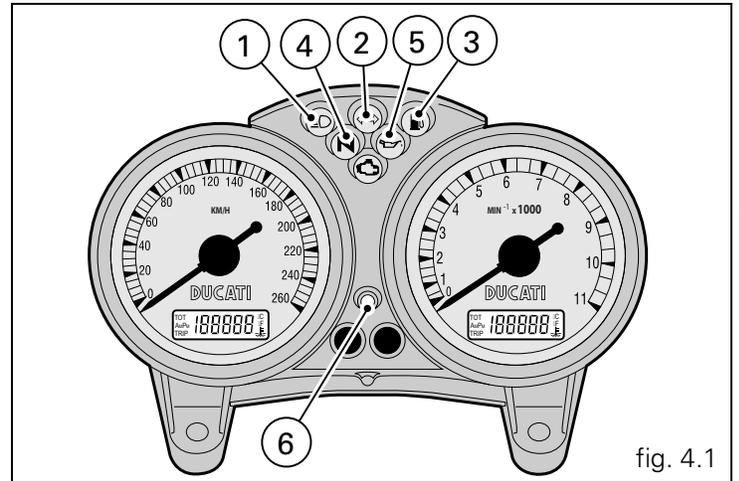
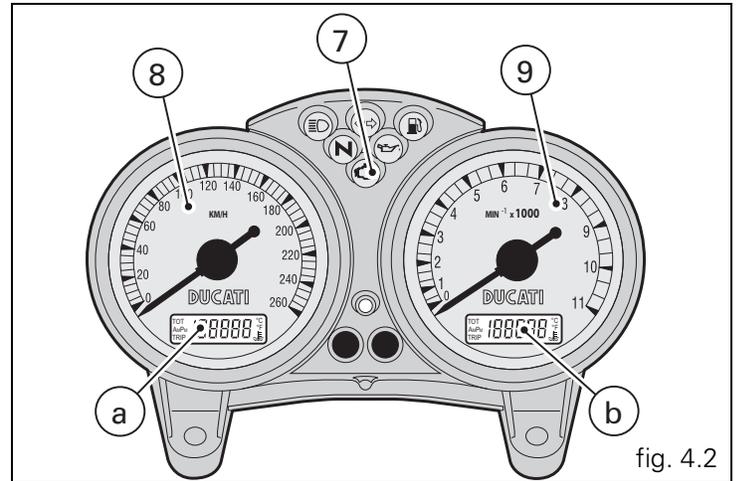

fig. 4.1
fig. 4.2
Instrument panel (fig. 4.1 and fig. 4.2)
In the event of faults in the immobilizer system, the following procedure makes it possible to disable the "engine lock" function, which is indicated by the yellow-amber EOBD warning light (7, fig. 4.2).
The EOBD warning light (7, fig. 4.1) will go off after the pre-set time of 8 seconds.
- 4) Count the number of flashes of the EOBD (7, fig. 4.1) light equal to the first number of the secret code. Open the throttle twistgrip, keep fully open for 2 seconds, then release. The digit entered is acknowledged, and the EOBD light comes on and stays on for the pre-set time of 4 seconds. Repeat the operation until you have entered the final digit. If no operation is performed with the throttle twistgrip, the EOBD light will flash 20 times and then illuminate steadily. In this case, repeat the procedure from step (1).
- 6) If the code was NOT entered correctly, the EOBD light will remain lit and the procedure can be repeated as many times as necessary by turning the key to OFF, then starting again from step (1).